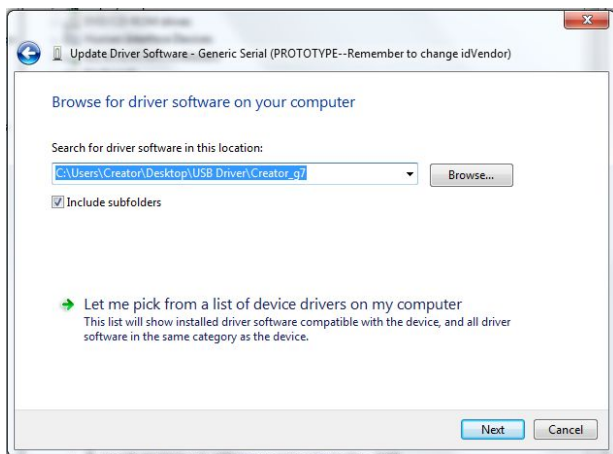

Figure 1-3
4.Select "install from a list or specific location (Advanced) (s)", click "Next", "Hardware Update Wizard" dialog box pops up, Shown in Figure 1-3: